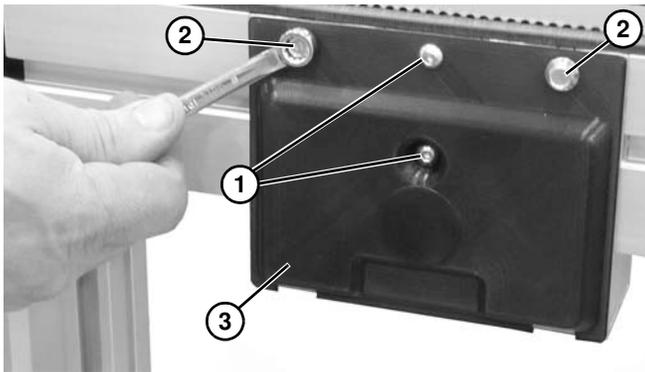

Figure 15
- Remove button head screws (**Figure 15, item 1**).
- Loosen hex flange screws (**Figure 15, item 2**) on both sides of conveyor. Remove mid drive cover (**Figure 15, item 3**).